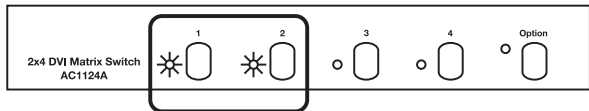

Figure 5-2. LEDs 1 and 2.
2. LEDs "1" and "2" blink. See Figure 5-2.
2. All four LEDs blink. See Figure 5-2.